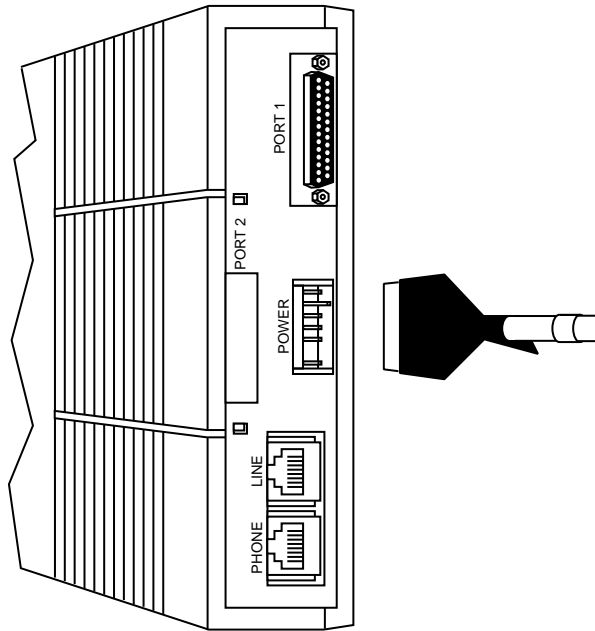

FIGURE 8-18. Plug One of the Loose DC Power Cords into the POWER Connector
6. Plug one of the loose DC power cords into the **POWER** connector on the back of each data module. See Figure 8-18.